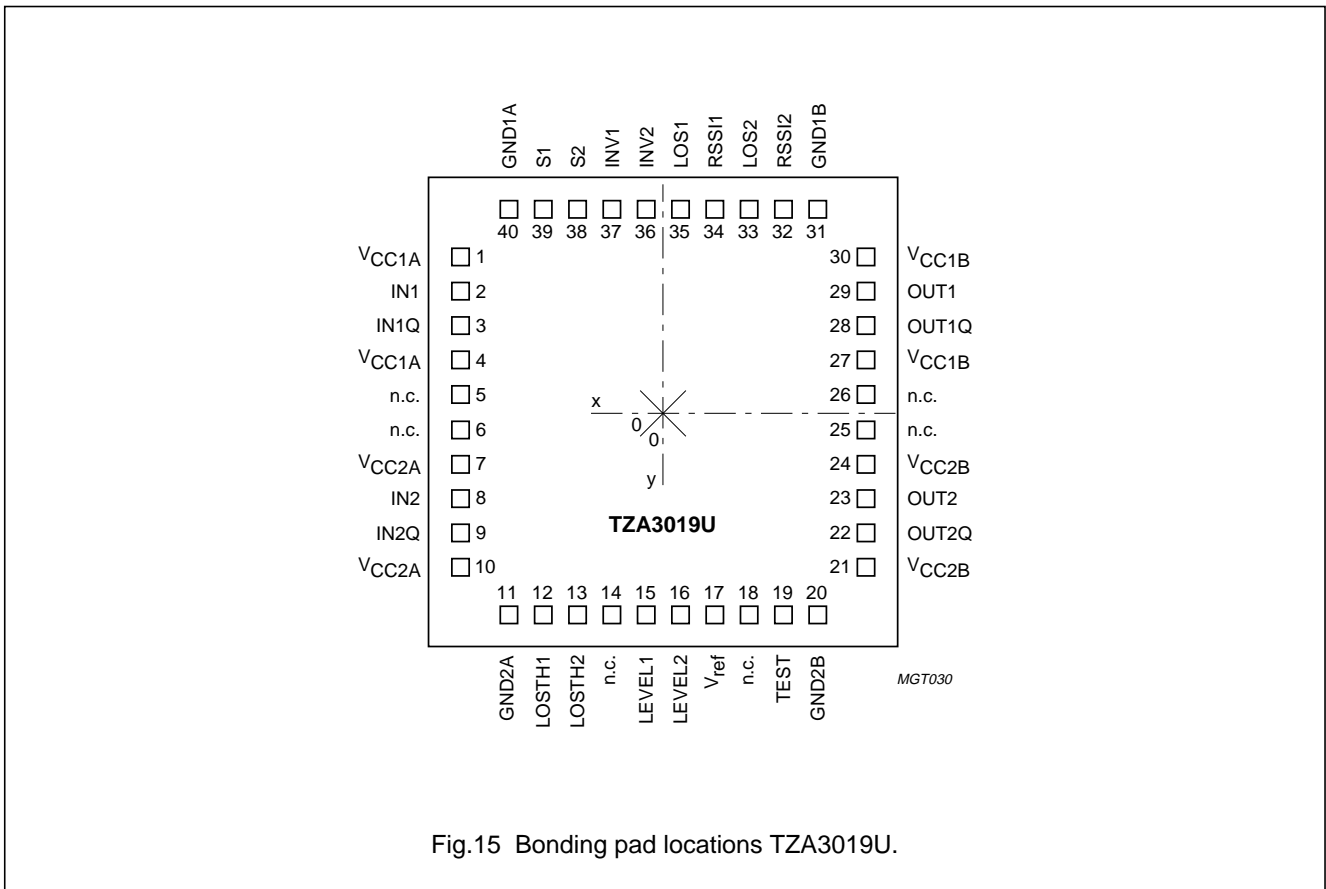

Fig.15 Bonding pad locations TZA3019U.
1. All x and y coordinates represent the position of the centre of the pad in  $\mu\text{m}$  with respect to the centre of the die (see Fig.15).